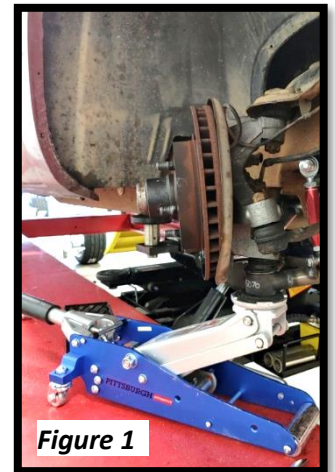

Figure 1
7. Support the lower control arm using a floor jack (or use a spring compressor) to contain the remaining spring energy. **(Figure 1)**